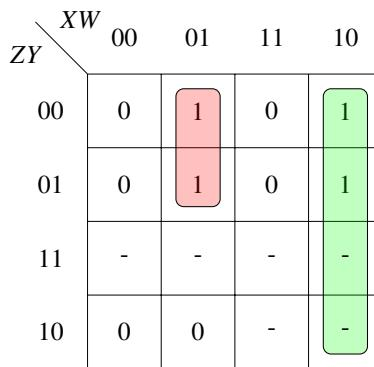

Fig. 4.6: K-map for  $B$  with don't cares
3. The revised K-map for B is available in Fig 4.6 Show that